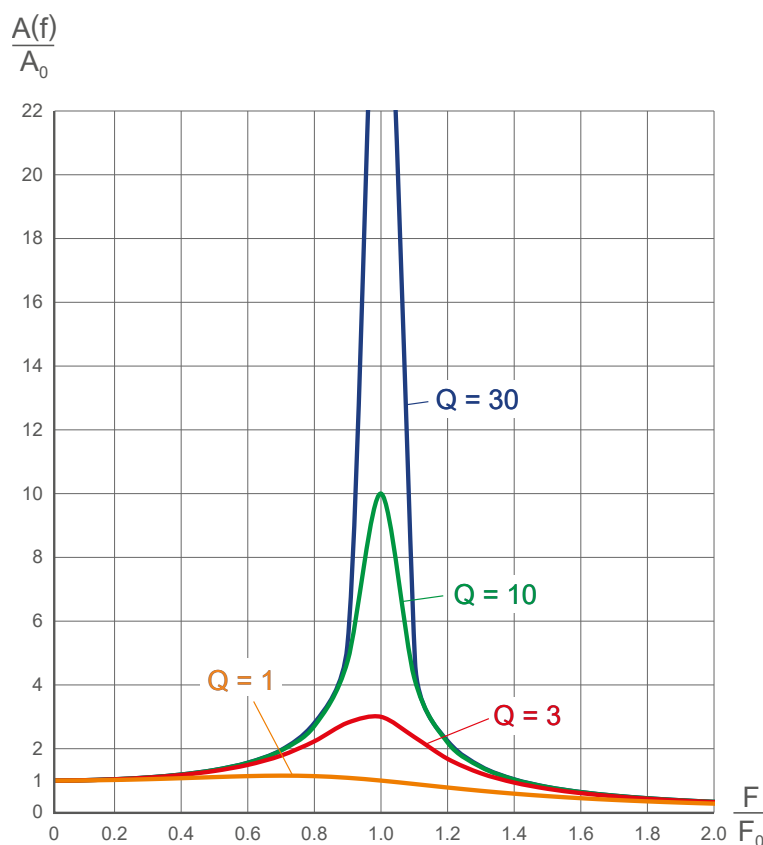

Fig.2-9 Frequency response graph
The transfer response is plotted (see Fig.2-9) for various quality factor values (Q), which are dependent upon the amount of damping in the torsional system. The graph charts the factor by which the torque will be amplified, depending on the frequency of the torsional oscillations.